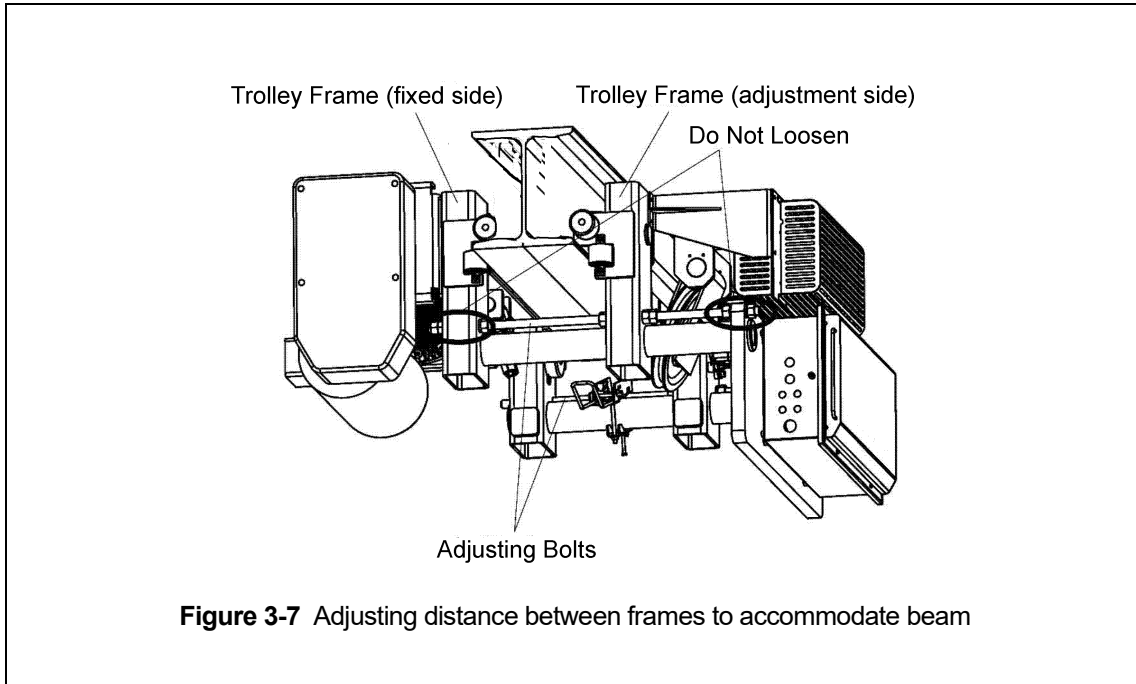

Figure 3-7 Adjusting distance between frames to accommodate beam
- 3) **⚠ CAUTION** Only move/adjust the Trolley Frame “adjustment side” (side with trolley motor) of the trolley. The “adjustment side” is easily identifiable as the trolley motor is bolted to it. Never loosen the Adjusting Bolt Nuts on the “fixed side” or attempt to move the “fixed side” of the Trolley Frame. See **Figure 3-7** for Trolley Frame identification. “Adjustment side” (trolley motor) side is shown in **Figure 3-7 and Figure 3-8**.
- 5) To widen the flange width: Loosen the adjusting nut on the outer side of the trolley frame (adjustment side) and tighten the nut on the inner side of the trolley frame (adjustment side) shown in **Figures 3-8**. This must be performed uniformly on both Adjusting Bolt locations on each end of the hoist as shown in **Figures 3-7**. Confirm dimension "A" as referenced in **Figure 3-10**.
To narrow the flange width: Loosen the adjusting nut on the inner side of the trolley frame (adjustment side) and tighten the nut on the outer side of the trolley frame (adjustment side) shown in **Figures 3-8**. This must be performed uniformly on both Adjusting Bolt locations on each end of the hoist as shown in **Figures 3-7**. Confirm dimension "A" as referenced in **Figure 3-10**.